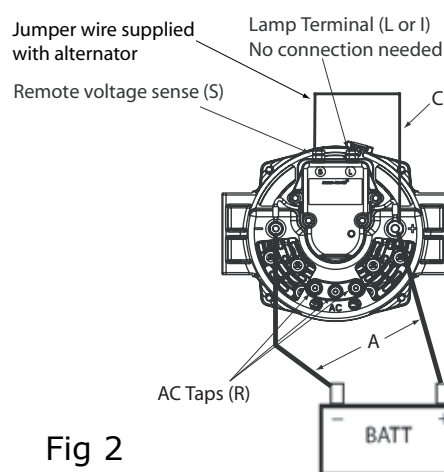

Fig 2
Two wire: Alternators that have two wires connected to them are self excite. The two wires connected to the alternators are the positive and negative cables. When connecting our alternators use Fig 2 to properly connect these alternators. A jumper wire is supplied to connect the alternator (S) terminal to the (B+) terminal.
Ignition excite alternators w/o lamp: The three wires are the positive, negative cables and a third smaller gauge wire connected to the alternator IGN or (I) terminal. Voltage will be present to the ignition terminal only when the vehicle key is in the run position. If your vehicle has an ignition wire, do not connect it to the alternator. Insulate and secure to prevent shorting. All that is needed is the main positive, negative cables and jumper wire connected to the alternator (S) and B+ terminals in order for it to operate. (Fig 2)